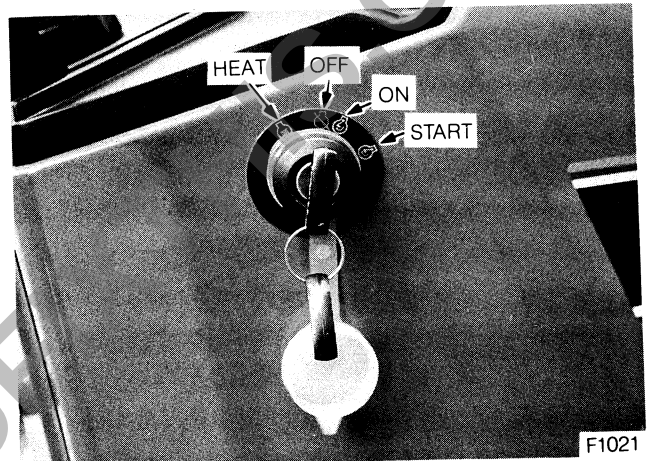

Figure 18 — Key Switch
3. Turn the key switch to the "START" position, Figure 18. When the engine starts, release the key. Check to be sure the warning lights go out. If the engine fails to start after cranking for approximately 10 seconds, refer to the following "COLD WEATHER STARTING" information.